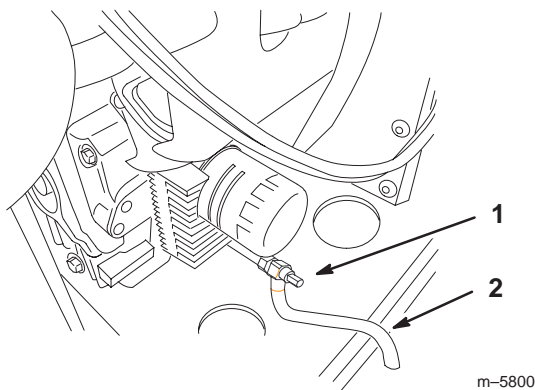

Figure 42
5. Place the hose onto oil drain valve to direct oil into drain pan (Fig. 42).
6. Place a pan below the drain hose. Rotate the oil drain valve to allow the oil to drain (Fig. 42).
8. Remove the drain hose. Place the hose in a notable place for future use (Fig. 42).